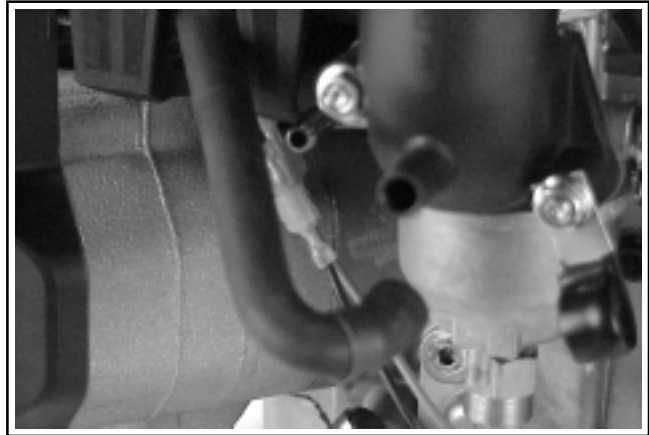

Figure 9-13. Removing Breather Hose from Air Cleaner Base.
1. Disconnect the breather hose from the air cleaner base. See Figure 9-13.